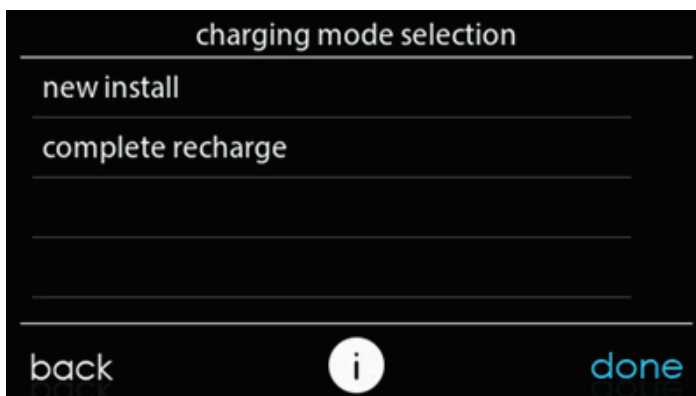

Fig. 18 – Charging Mode Selection A20037
12. If this is a new install, i.e. the ODU is factory charged, then select "new install" in the "charging mode selection" screen (see Fig. 18)